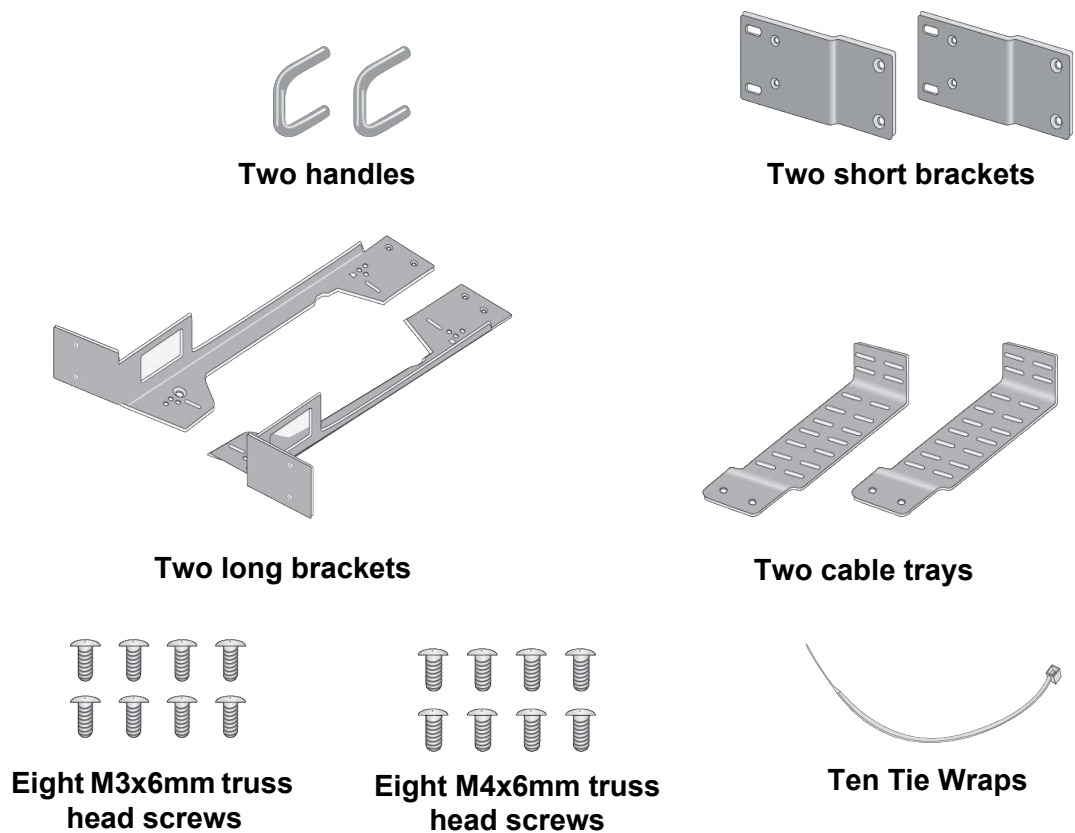

Figure 19. RKMT-J05 Equipment Rack Brackets Kit for the GS970EMX/10 Switch
Installing the GS970EMX/10 Switch in a standard 19-inch equipment rack requires the RKMT-J05 brackets kit. Refer to Figure 19. For instructions, refer to Chapter 3, “Installing the GS970EMX/10 Switch in an Equipment Rack” on page 63.
2. Unpack the RKMT-J05 equipment rack brackets kit and verify the contents. Refer to Figure 19 on page 55.